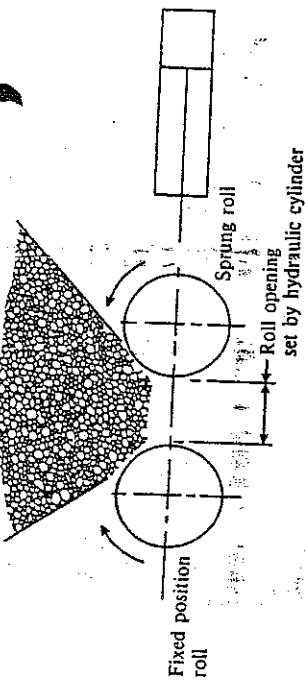

Figure A.25
A.3.7 A double slugger roll crusher is to be hydraulically driven. A layout of the unit is shown in Figure A.25. Two contra-rotating rolls are each driven by a fixed-displacement slow-speed hydraulic motor, the maximum drive speeds being 55 and 65 rev/min for the fixed and sprung rolls respectively. If a piece of non-crushable material enters the rolls and causes them to jam the roll drive must automatically stall off. The sprung roll position is adjusted